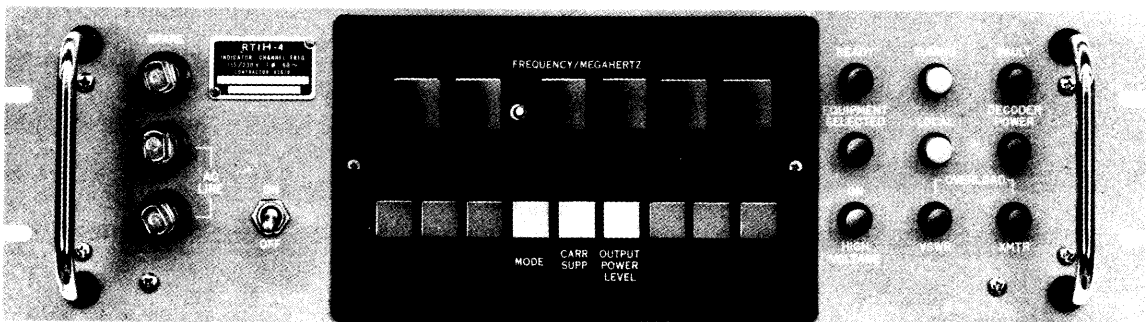
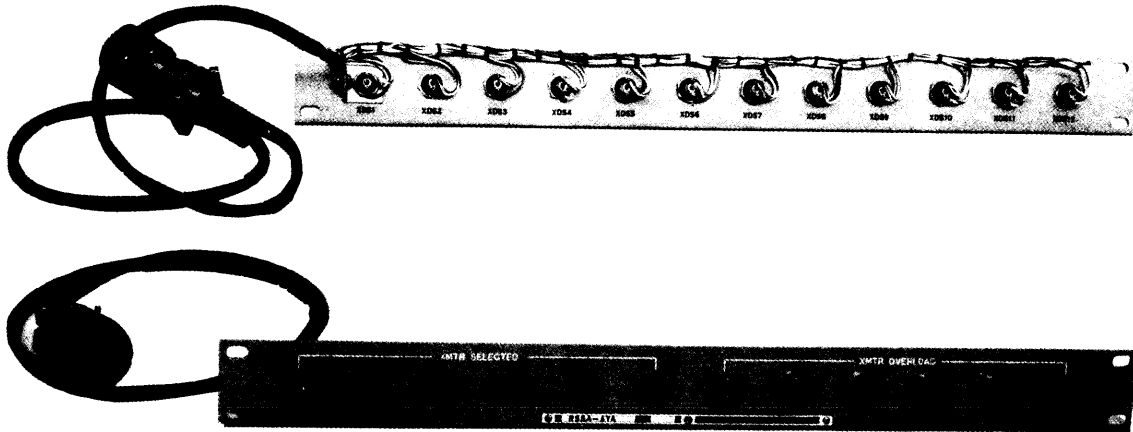

Figure 3-2. Front Panel Controls of Channel/Frequency Indicator ID-1678/URT
Figure 3-3. Front Panel View of Indicator Panel IF-1677/URT
(3) Readback Monitoring. When the EQUIPMENT SELECTION pushbuttons are depressed, a readback is generated from the selected transmitter in the selected block. \*\*\* This readback of control positions and transmitter status is displayed on the ID-1678/URT panel (figure 3-2). A light in the 1-6 XMTR SELECTED row on the ID-1677/URT panel (figure 3-3) indicates which transmitter is represented in the display. Readback is continuous from a selected transmitter until another transmitter is selected.